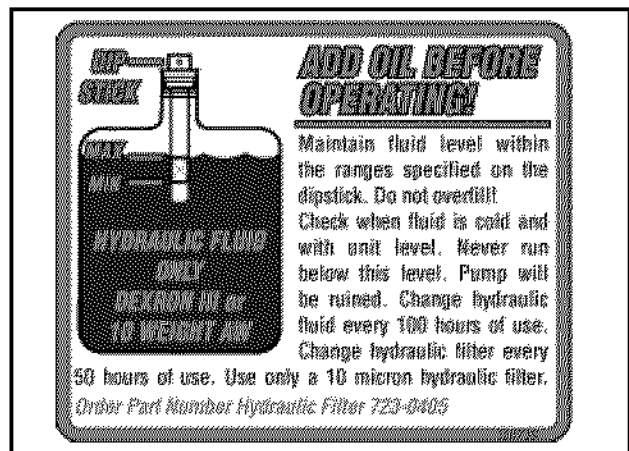

Figure 6
- Check fluid level using the dipstick. See Figure 6.